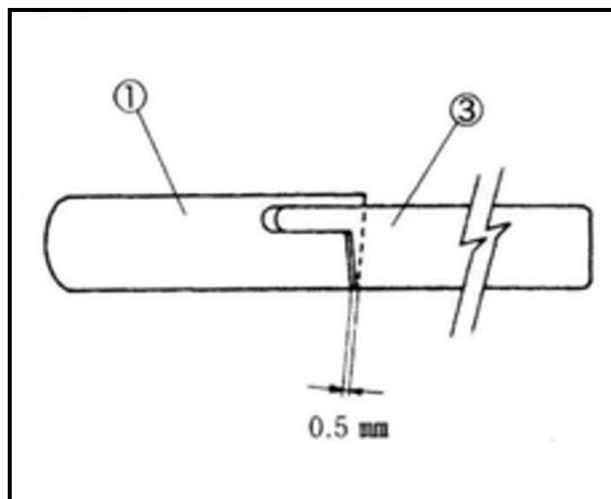
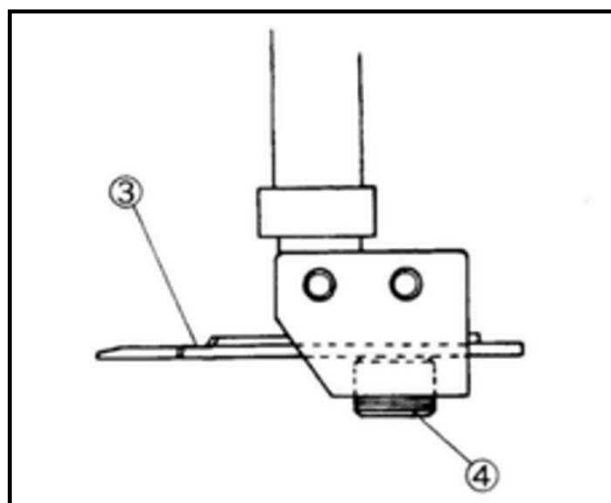

Fig.30
Fig.31
(1) 底刀① 的标准位置要留距离在底刀① 尖端和锁底刀座②之间0-0.5mm。(Fig. 30)
(2) 当上刀③ 在最左边时, 上刀③ 和底刀① 要有0.5mm 的重叠。
(3) 放松螺丝④ 和⑤ 去调整上刀和底刀。(Fig.31 , 32)
(1) For the standard position of the lower knife ①, make the distance between the lower knife ① tip and the lower knife clamp ② to 0-0.5 mm. (Fig. 30)
(2) For the standard position of the upper knife ③, engage between the upper knife ③ and lower knife ① to 0.5 mm when the upper knife ③ is at the extreme left.
(3) Loosen the screws ④ and ⑤ to adjust the lower and upper knives respectively. (Fig.31 , 32)